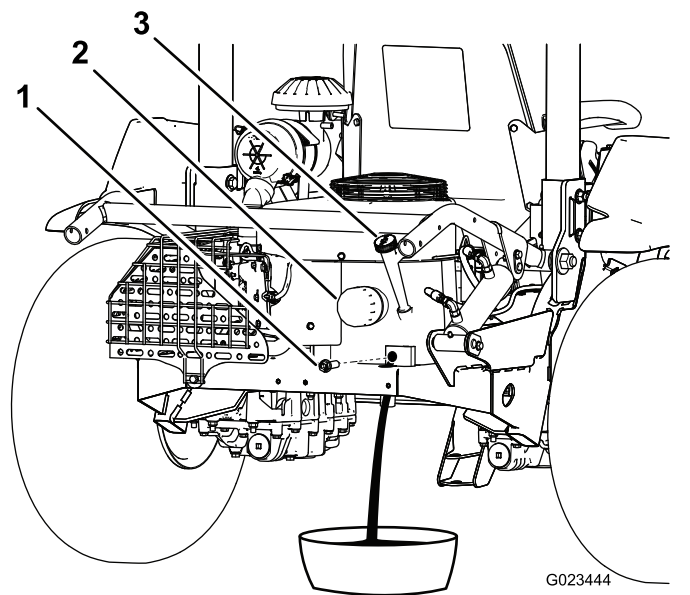

Figure 39
- Remove the drain plug (Figure 39) and let the oil drain into a suitable container. When the oil stops draining, install the drain plug.